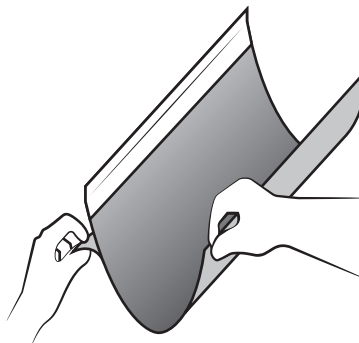

FIGURE 2
2. Raise the graphic up over the top of the hinge and peel the liner back a few inches. see FIGURE 2.